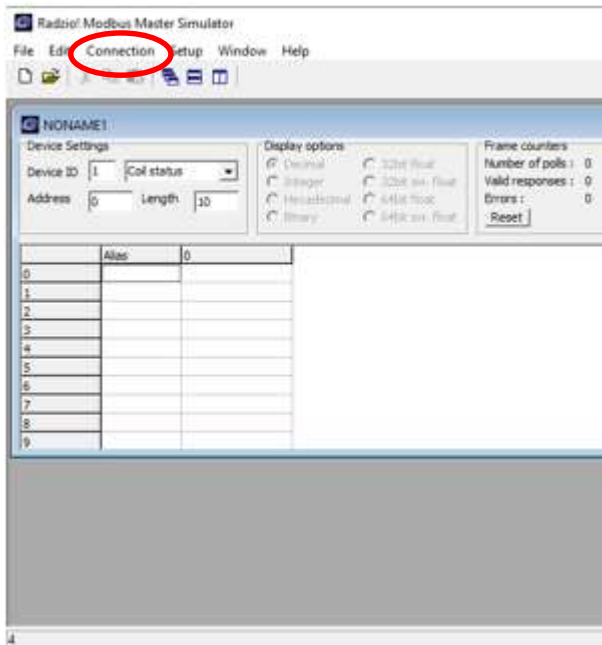
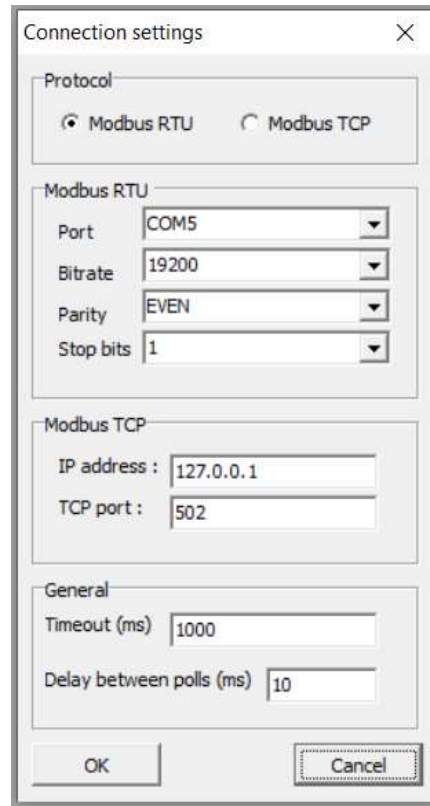

Figure B2
Figure B3
Steps 2 – 7 references Figure B2 and Figure B3.
2. Select from the top header dropdown menu *Connection -> Settings*, see figure B2.
3. Make sure *Modbus RTU* is selected, see Figure B3.
Steps 8 – 13 references Figure B2 and Figure B4.
12. Select from the top header dropdown menu *Connection -> Connect*, see Figure B2.